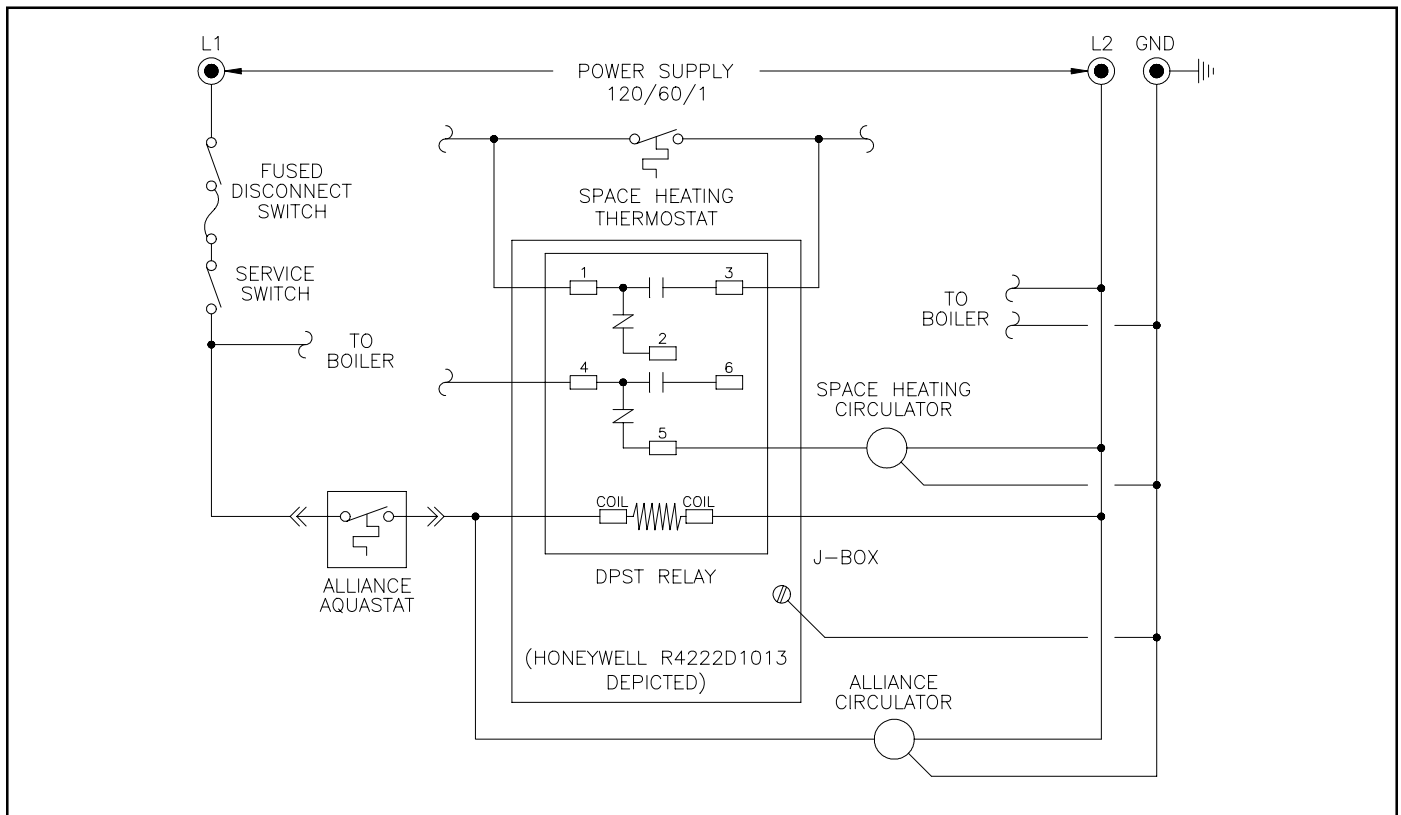

Figure 11: Priority Wiring Diagram - Multizone Space Heating with Zone Valves or Single Zone Space Heating
1. Install electric wiring in accordance with National Electrical Code or the Canadian Electrical Code and local regulations. See Figure 11 for the wiring diagram and the boiler's Installation manual.
2. The Alliance™ models contain an aquastat assembly and will require an installer supplied double pole, single throw (DPST) relay with a normally open (NO) contact, a normally closed (NC) contact, and a 120 volt coil for priority domestic water. A Honeywell R4222D1013 is an appropriate relay. Refer to Figure 11. For non-priority, a SPST relay with one NO contact is sufficient. For non-priority and space heating with zone circulators, treat the water heater as an additional zone.